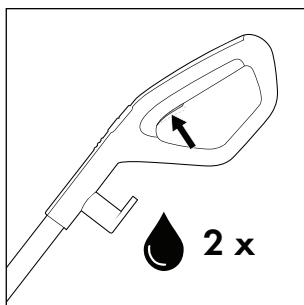
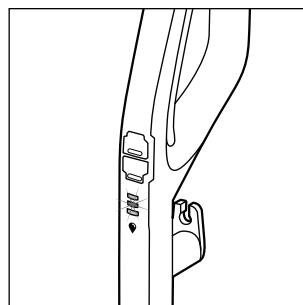

Fig. 14
Fig. 15
- ◆ Before each use, press the cleaning solution switch  ⑮ twice briefly to activate the continuous spray function and add cleaning solution to the rotary brush ⑥ so that it is ready for operation (see fig. 14). The cleaning solution display  ⑫ flashes alternately blue when the continuous spray function is activated or the cleaning solution switch  ⑮ is being held down (see fig. 15).